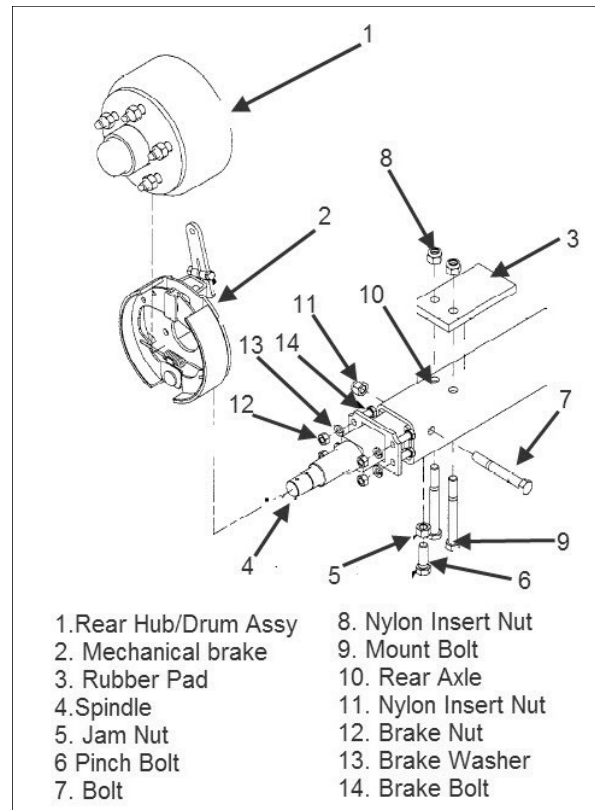

Figure 4-7 Rear Undercarriage Removal
See Figure 4-7 for the following maintenance steps. The rear undercarriage assembly consists of: a wheel assembly, a hub and brake drum assembly (1), a mechanical parking brake assembly (2), a rear spindle (4), and the axle (10).